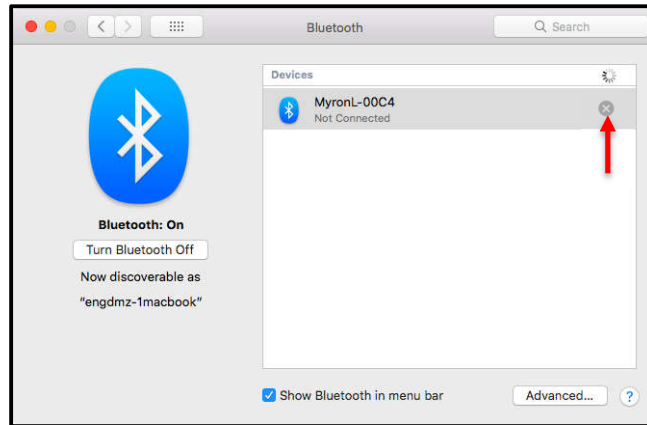

Figure 21
- 3) Click on the “X” button shown by the arrow (Figure 21).